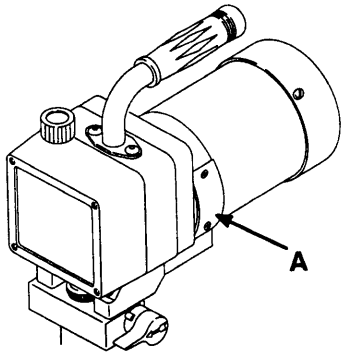

Fig 20-1
1. Remove both inspection covers (A) and their gaskets. See Fig 20-1.